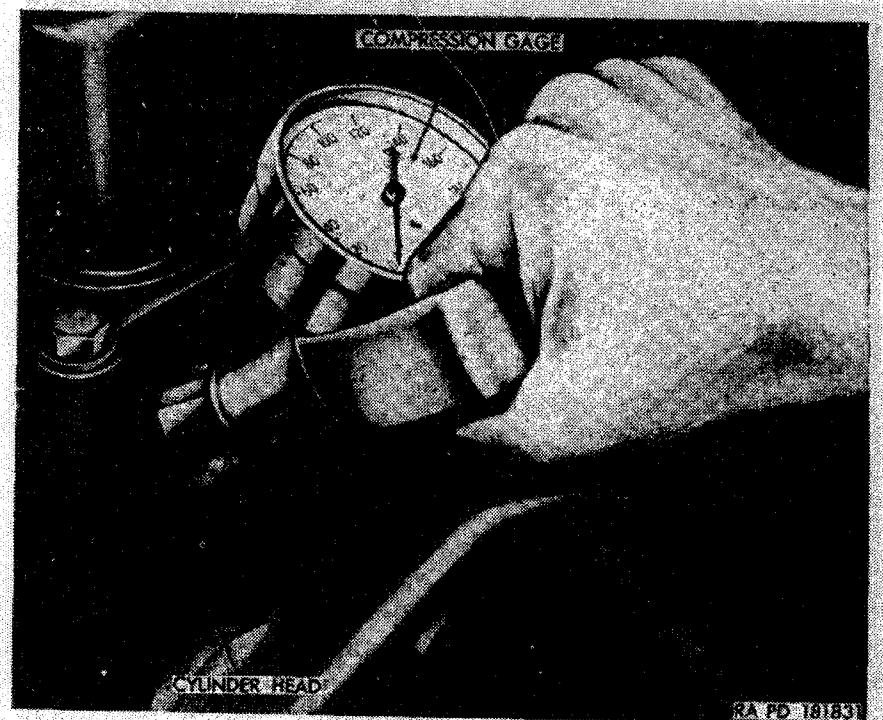

Figure 38. Checking cylinder compression.
e. Insert a conventional-type compression gage (fig. 38) into the spark plug holes, one at a time, beginning with the number one cylinder, and crank the engine with the starter. Record the highest compression reading from each cylinder on DA Form 461.